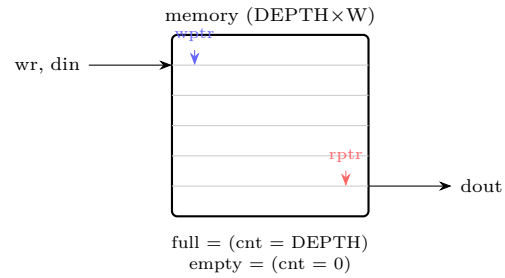

Fig. 10. A synchronous FIFO: one memory, a write pointer, a read pointer, and an occupancy count driving full/empty.
A. Use a count for the flags and first-word-fall-through (combinational) read so data is available before the read strobe. Guard writes with `!full` and reads with `!empty` so the pointers never run past each other. Fig. 10 shows the structure.